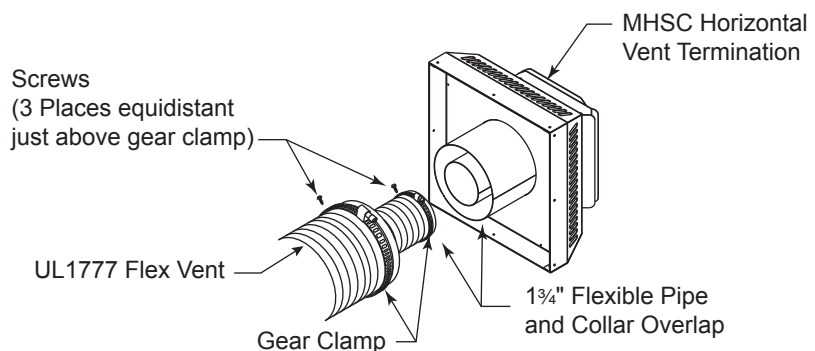

**Figure 40 -
1. Connect the 5" flexible vent to the horizontal termination as in *Figure 40*.
2. Connect the 8" flexible vent to the termination ring as in *Figure 40*.
3. Review *Figure 40* for proper overlap and clamp placement.
5. Use only listed an approved terminations and accessories, installed per the termination instructions and *Figure 40*.